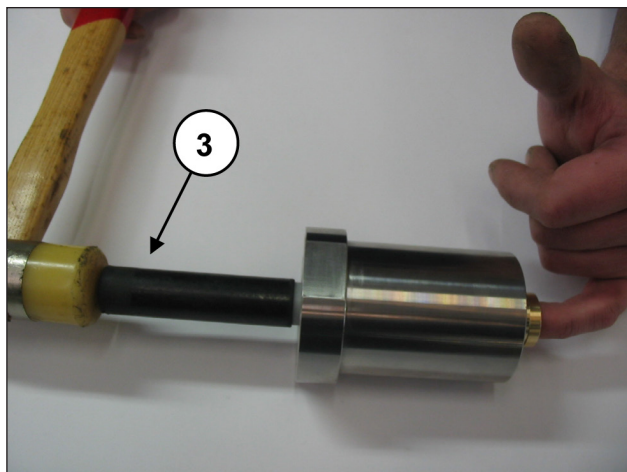
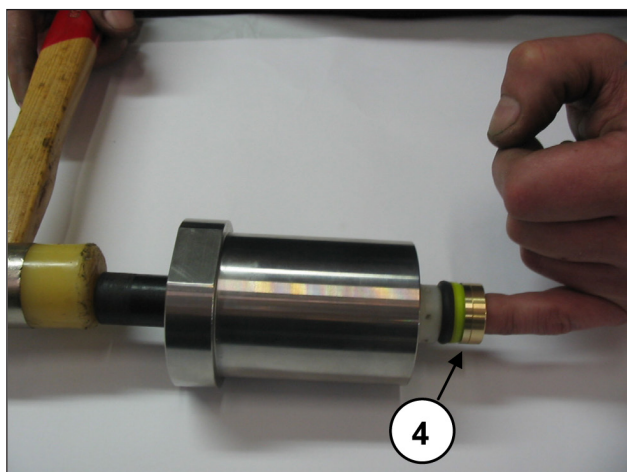

Fig. 52
Fig. 53
- With the liner separated from the sealing support and with a special plastic pin ③ as shown in Fig. 52 drive out the HP (high pressure) seal ④ as shown in Fig. 53.
At each disassembly, the HP packing ④ Fig. 53 must be replaced.